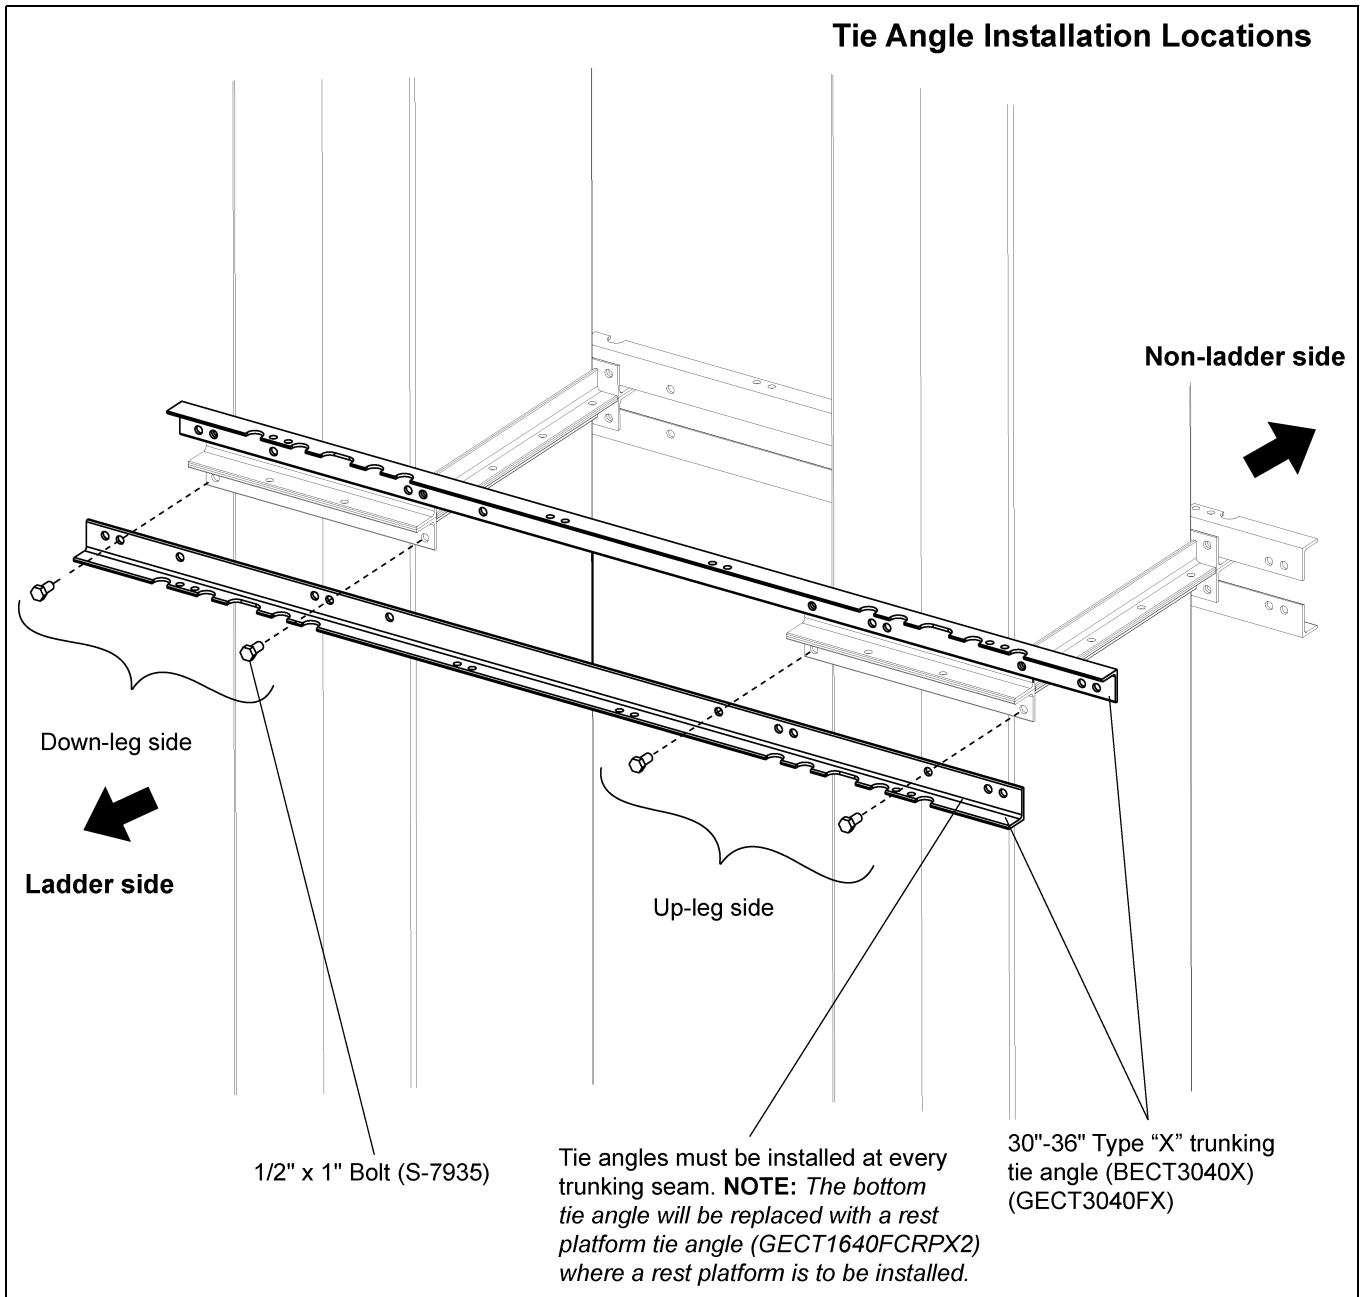

Figure 6G Tie Angle Installation Location
1. Tie angles must be mounted to each trunking seam on both the ladder and non-ladder side of the trunking. Use 1/2" x 1" bolts. *See Figures 6G-6I on Pages 29 and 30* for the correct location of bolts for each elevator size.